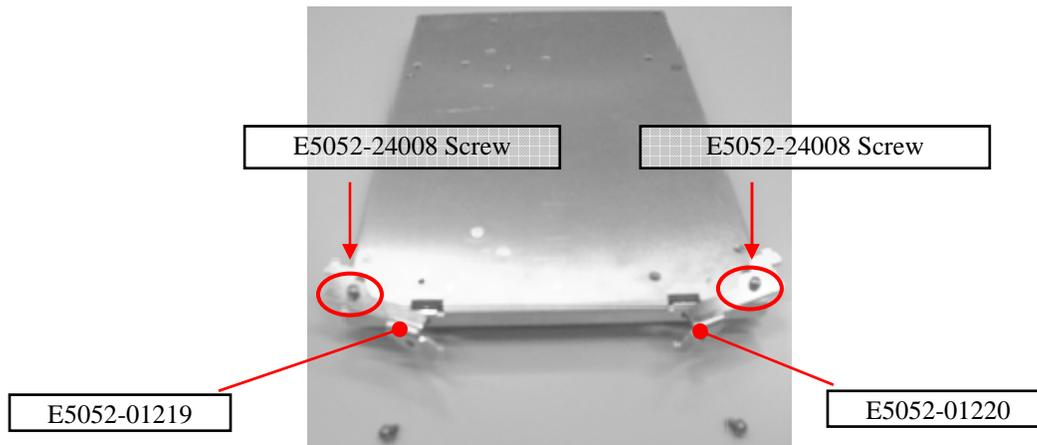

Figure 4 A2 shield case (bottom) assembly
Step1. Attach E5052-01219 and E5052-1220 to the E5052-00624 with screw (see Figure 4)